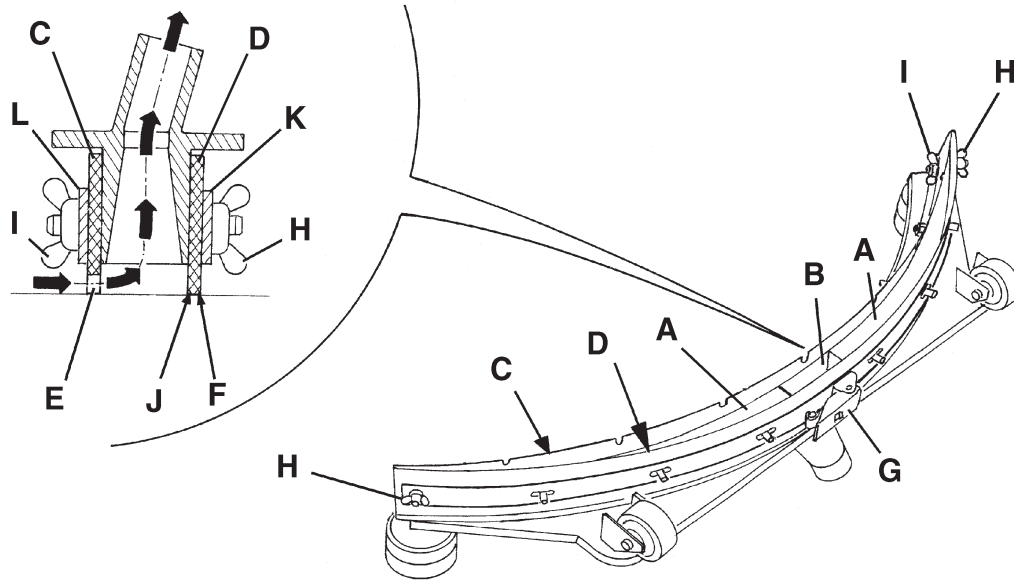
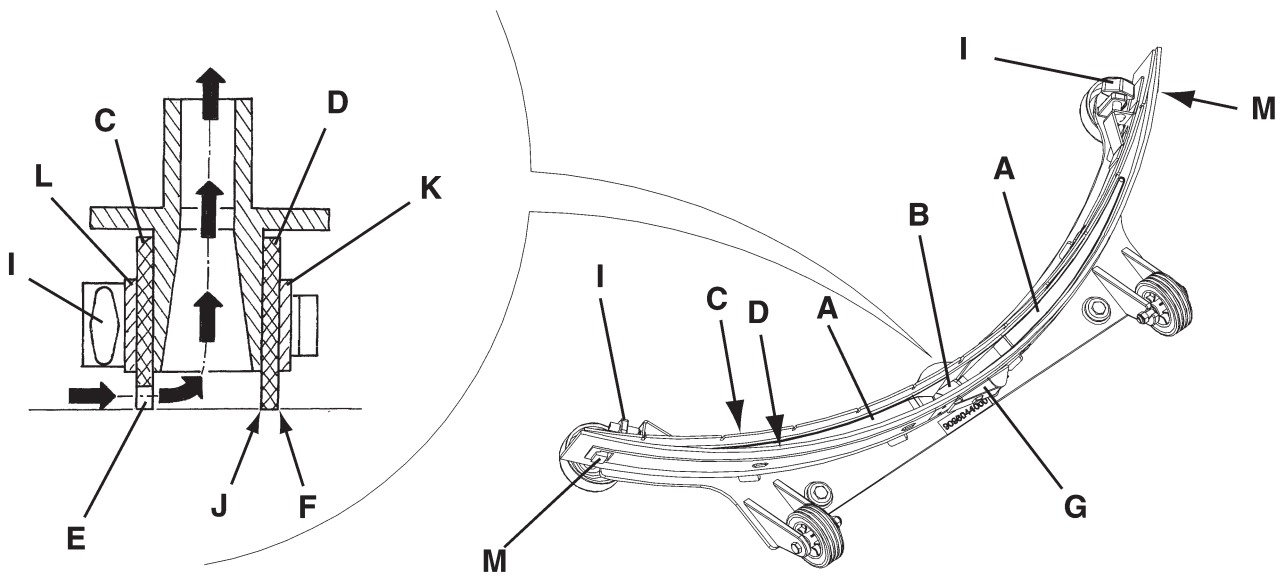

Fig. 1
Fig. 2
- (For **Adfinity™ X20R, 20D, X20D, X20C, X24D**) Turn the ignition key (80) to "0".
- (For **Adfinity™ 17ST, 20ST**) Turn off the switches (71) and (73).
3. Lower the squeegee (25) with the lever (10).
4. Loosen the handwheels (26) and remove the squeegee (25).
5. Disconnect the vacuum hose (15) from the squeegee.
6. Clean the steel squeegee (Fig. 1) or the aluminium squeegee (Fig. 2). Clean the compartments (A, Fig. 1 or 2) and the hole (B) especially. Check the front blade (C) and the rear blade (D) for integrity, cuts and tears; otherwise replace them (see the procedure in the following paragraph).
1. Clean the steel squeegee (Fig. 1) or the aluminium squeegee (Fig. 2), according to the procedure shown in the previous paragraph.
2. Check that the edges (E, Fig. 1 or 2) of the front blade (C) and the edges (F) of the rear blade (D) lay down on the same level, along their length; otherwise adjust their height according to the following procedure:
- Release the tie rod (G, Fig. 1 or 2) and loosen the wing nuts (H, Fig. 1), or disengage the fasteners (M, Fig. 2) and adjust the rear blade (D, Fig. 1 or 2), then tighten the wing nuts, or engage the fasteners, and then engage the tie rod.
- Loosen the handwheels (I) and adjust the front blade (C, Fig. 1 or 2); then tighten the handwheels.
3. Check the front blade (C, Fig. 1 or 2) and rear blade (D) for integrity, cuts and tears; if necessary replace them according to the following procedure. Check that the front corner (J) of the rear blade is not worn; otherwise, overturn the blade to replace the worn corner with an integral one. If the other corners are worn too, replace the blade according to the following procedure:
- Release the tie rod (G), remove the wing nuts (H) or disengage the fasteners (M), remove the retaining strip (K), then replace/overturn the rear blade (D). Then install the blade in the reverse order of removal.
- Unscrew the handwheels (I) and remove the retaining strip (L), then replace the front blade (C). Install the blade in the reverse order of removal.